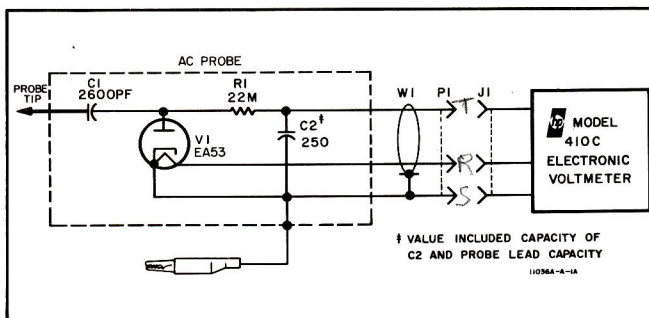

Figure 3. 11036A AC Probe Schematic Diagram
7. Refer to Figure 3 for a schematic diagram of the probe. The Model 11036A AC Probe includes a diode clamper which applies the peak value of the input voltage to the Model 410C Voltmeter. Capacitor C1 is charged to the peak value of the input signal through diode V1, during the positive cycle of the input. Resistor R1 and capacitor C2 form a low pass filter network which shorts to ground the negative cycles of all signals above 20 Hz.